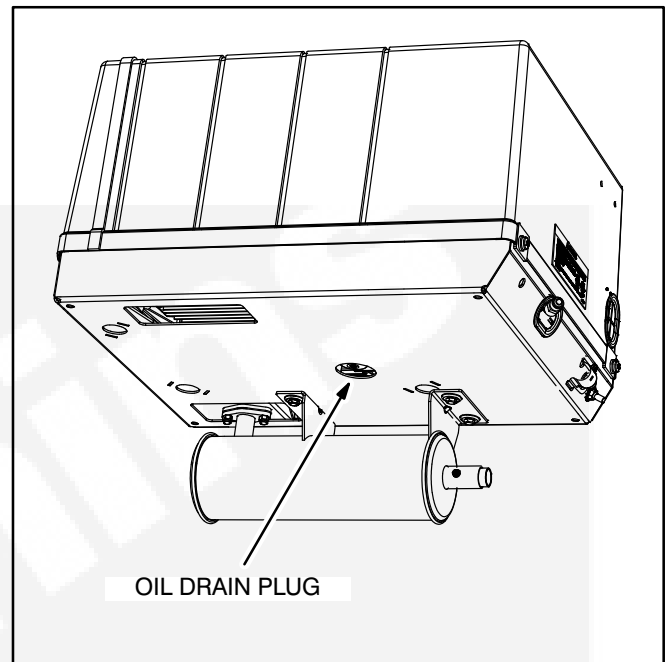

FIGURE 3-2. OIL DRAIN PLUG
2. Place a pan underneath the genset and unscrew the drain plug (Figure 3-2). Let all oil drain from the engine and then secure the drain plug. Torque the plug to 21 lbs-ft (27 N-m).